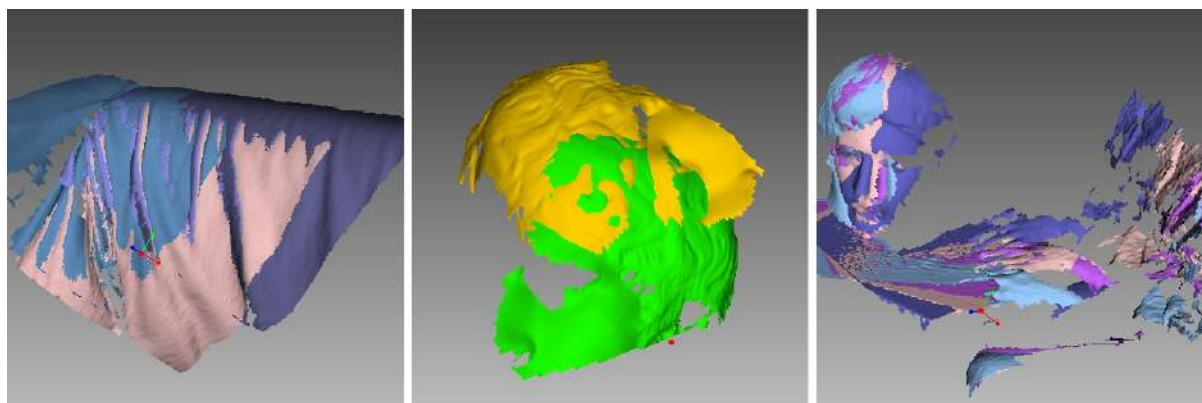

Figure 73: Possible scan errors.
- Misaligned frames (see Figure 73, left)—may occur because of small size, an insufficient number of geometrical features on the object or an insufficient number of polygons in a frame.
- Misaligned parts (see Figure 73, middle)—occurs when the real-time alignment algorithm incorrectly determines the position of the new frame relative to previous ones.
- Unwanted objects in the frame (see Figure 73, right).